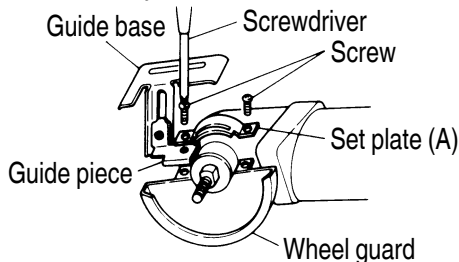
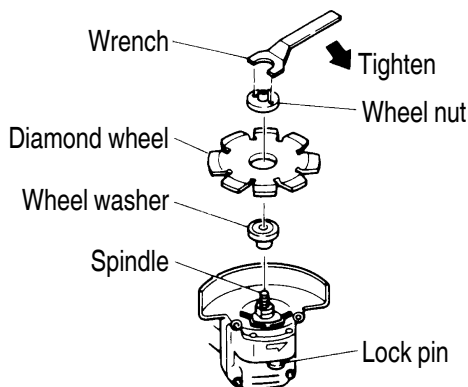

Fig. 4
Fig. 5
- (1) Utilize the correct size diamond wheel (external dia. 105 mm, Internal dia. 20 mm).
- (2) Do not apply cooling water or grinding fluid while utilizing the diamond wheel.
- (3) Hold the grinder firmly to control the tendency of the grinder to be rebounded from the material during cutting operation.
- (4) Ensure that the cutting depth is kept within 2-5 mm to prevent over-heating damage to the motor. Use with moderate cutting speed, and do not apply excessive pressure on the workpiece.
- Mounting the Guide Base Assembly. (Fig. 4)
- (1) Loosen the two small screws on the wheel guard.
- (2) Insert the guide piece between the wheel guard and set plate (A), and tighten one of the small screws. Ensure that the guide will not move.
- (3) Set the angle of the wheel guard to a suitable position for operation, and securely tighten the remaining small screw to fix the wheel guard in position.
- Mounting the Diamond Wheel. (Fig. 5)
Mounting of the diamond wheel on the spindle is illustrated in Fig. 5. Note that the wheel washer is reversed from ordinary usage with depressed center wheel.
- (3) As shown in **Fig. 5 on page 27**, push in the lock pin to prevent rotation of the spindle. Then, secure the diamond wheel by tightening the wheel nut with the wrench.